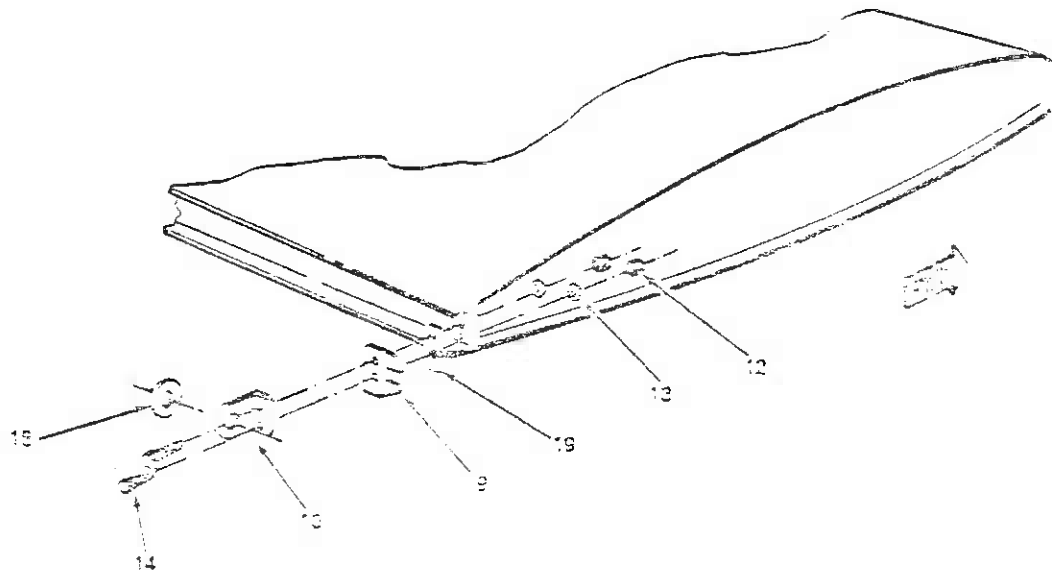

FIGURE 1
- A.) Aileron/torque tube removal (REFER TO FIGURE 1)
- (1) Remove wing tip as described in Chapter 57 of AA-5 series Maintenance Manual.
- (2) Remove plugs (1) from inboard end of aileron (2). Remove nut, (3), washer (4), and bolt (5).
- (3) Remove nuts, (12), washers (13), and bolts (14) from wing. Note installation, if installed, of spacers (18) and shims (19). Mark position of control stop (9) and aileron hinge (10), then remove from wing. Disconnect ground terminal.